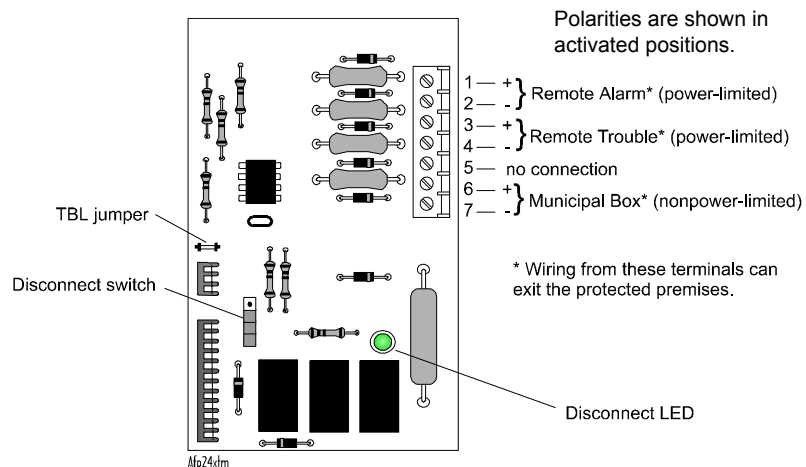

Figure 45 4XTM Module Connections and Components
4. Push the disconnect switch (Figure 45) down to prevent unwanted activation of the municipal box during testing of the control panel.
The Disconnect LED remains lighted while the municipal box is disconnected. The System Trouble LED will indicate disconnected and/or open circuit conditions on the municipal box. During trouble conditions, it is possible to obtain the circuit condition on the alarm reverse-polarity output. If this operation is desired, cut the TBL jumper (shown in Figure 45)
Figure 45 shows 4XTM module components with polarities shown in activated positions.